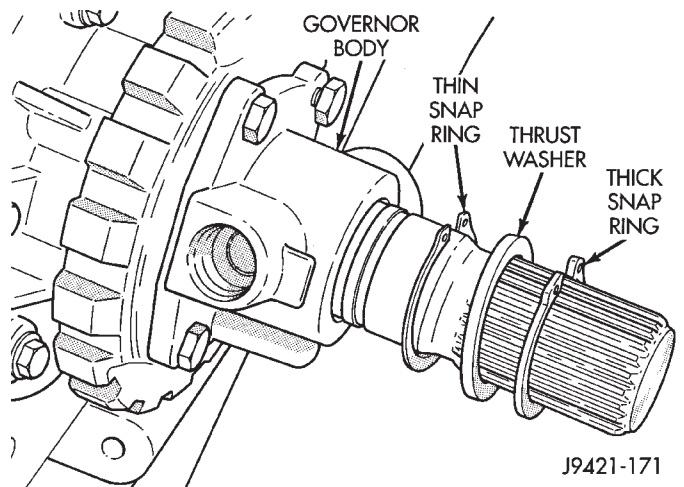

Fig. 14 Governor Body/Park Gear Retaining Snap Rings And Thrust Washer Position
(13) Remove snap rings and washers that retain governor body and park gear assembly on output shaft (Fig. 14).
(b) On models with thrust washer and two snap rings, install thin snap ring first. Then install thrust washer second, and thick snap ring last (Fig. 14).